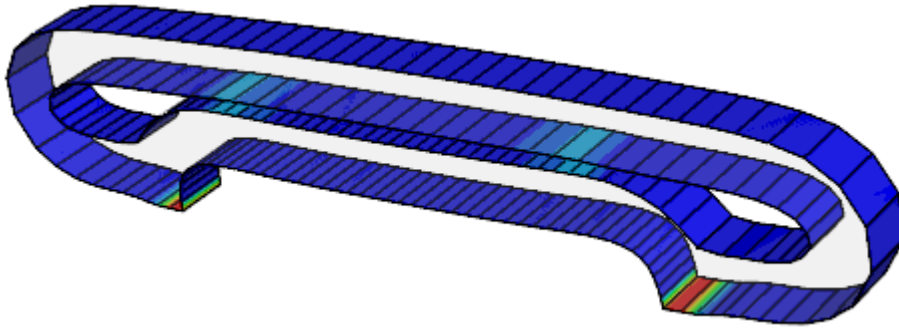

Figure W1–6. CPRESS contour plot
- m. In the display group manager, select **surfaces** and click **Add**. Lock the surface display. The plot appears as shown in Figure W1–6.